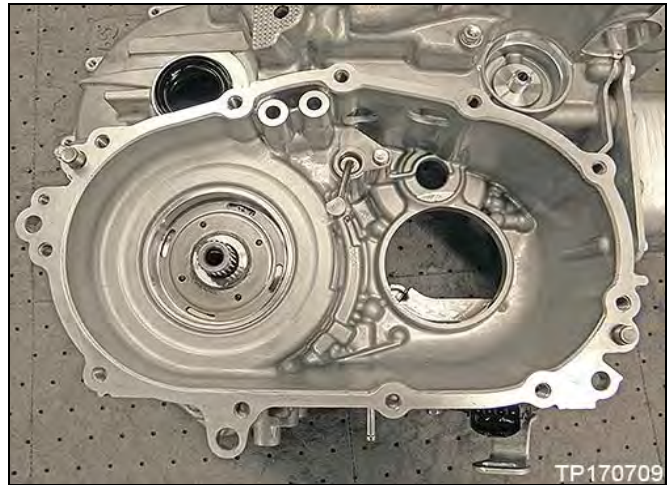

Figure 2M
2. Reposition the CVT on the work bench with the torque converter housing side facing down (Figure 2M).